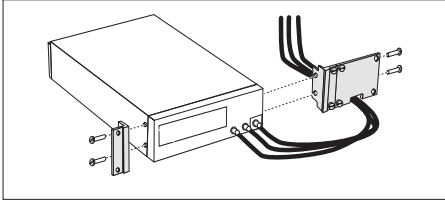
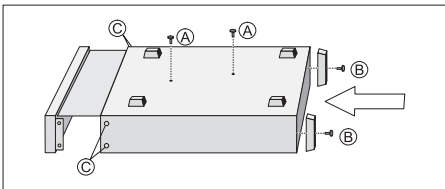

Figure 2-6 Fitting the rackmount brackets on the counter.
Figure 2-4 Remove the screws and push the frequency standard out of the cover.
- Turn the instrument upside down. See Figure 2-4.
- Undo the two screws (A) and remove them from the cover.
- Remove the rear feet by undoing the two screws (B).
- Remove the four decorative plugs (C) that cover the screw holes on the right and left side of the front panel.
- Push the instrument back into the cover. See Figure 2-4.
- Mount the two rear feet with the screws (B) to the rear panel.
- Put the two screws (A) back.
- Fasten the brackets at the left and right side with the screws included as illustrated in Figure 2-6.